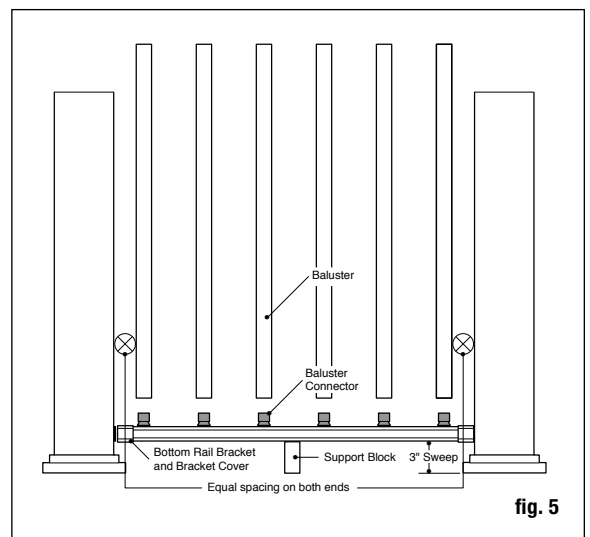

fig. 5
Step 6 Measure the distance between installed post sleeves to determine the length of the top and bottom rails. Place the bottom rail in position next to the posts and adjust so the distance between the first baluster hole and post is greater than 2" and equal on both ends (refer to fig. 5). Mark the rail. Cut the bottom rail. Cut the top rail to the same spacing and length.
Step 8 Place the line rail bracket covers and line brackets on the ends of the bottom rail. Install the support block and prop the bottom rail between the posts using blocks cut to size. Check the rail for level. Using the line bracket as a guide, mark the screw positions on the post sleeve and rail on both ends. Pre-drill 1/8" pilot holes through the post sleeve and rail. Attach the line bracket to the post sleeve using the #8-15 x 2" - #2 square drive pan head screws and then attach line bracket to rail using #10-16 x 3/4" - #2 square drive pan head self-drilling screws (fig. 5).
Step 10 Place the line rail bracket covers and line brackets on the ends of the top rail. Position the top rail by placing the baluster connectors inside the balusters, while working from one end to the other. Check the rail for level. Using the line bracket as a guide, mark the screw positions on the post sleeve and rail on both ends. Pre-drill 1/8" pilot holes through the post sleeve and rail. Attach the line bracket to the post sleeve using the #8-15 x 2" - #2 square drive pan head screws and then attach line bracket to rail using #10-16 x 3/4" - #2 square drive pan head self-drilling screws (fig. 5).